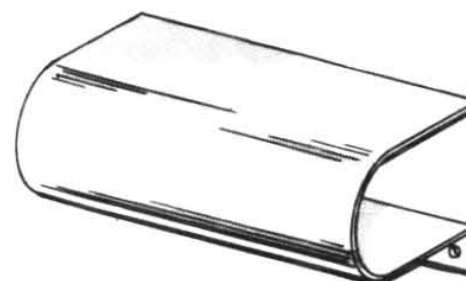

Fig. 20 Phase Crank Shield for 15kV back-connected jaw.
- l. For 15-kV installations and back-connected jaw only, mount the phase crank shield (shown in Fig. 20) over the phase crank shaft assembly at rear end of switch with two 1/4" - 20 x 3/4" long round head machine screws and lockwashers, into tapped holes on switch frame.
- d. This will complete the installation of the right hand pair of barriers as shown in Fig. 20. Repeat steps (a) thru (c) and install the left hand pair of barriers. This will complete the assembly of the four barriers. Note - no spacers are required between the two interphase barriers.